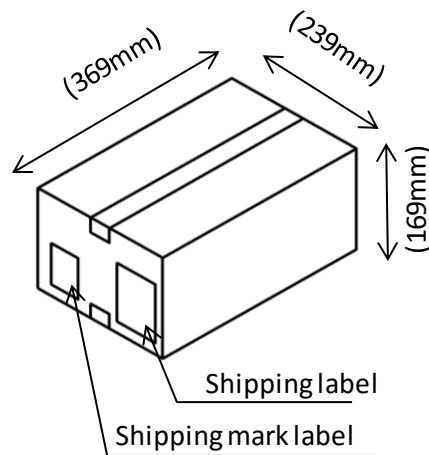

Fig. 1 Perspective view of outer packing box
- 1) Outer packing box is shown in Fig. 1.